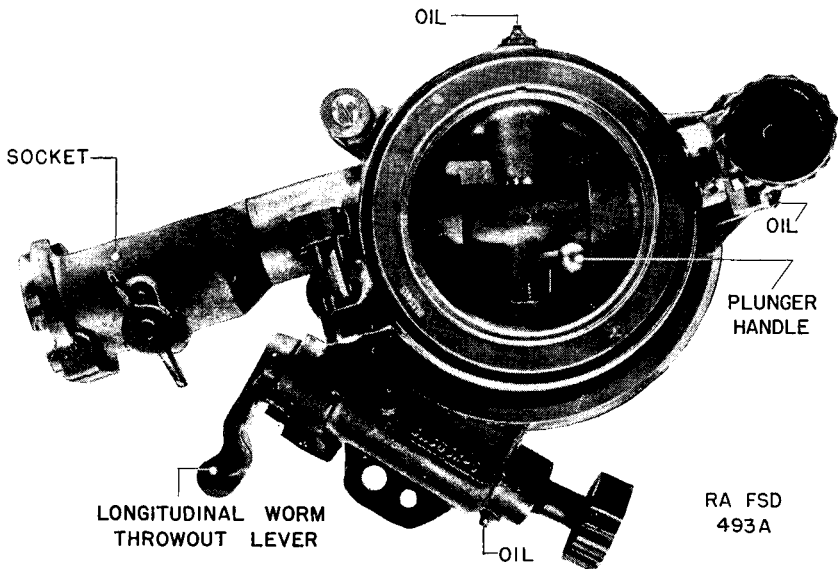

FIGURE 41.—Telescope mount, M15, traveling position.
plane parallel to the bore of the gun, while the longitudinal level when centered indicates the telescope to be vertical and hence deflections (azimuths) indicated on the scale are then measured in a truly horizontal plane. For traveling, a locking device is provided which holds the mount in the position shown in figure 41.
*c. Operation.*—(1) *Preparation.*—To place the mount and telescope in operation (fig. 41) remove the cover, grasp the socket in one hand and with the other push the plunger handle down, then to the left and release. Swing the socket to an approximately vertical position and with the free hand push the longitudinal worm throw-out lever clockwise until it snaps in place. Release the socket. Remove telescope from case. Turn the retaining knob to its extreme counterclockwise position and place telescope gently in the socket. Exert slight
*e. Care and preservation.*—(1) See paragraph 58 for general instructions pertaining to care and preservation of instruments.
(2) Avoid striking or bumping any part of the instrument, and particularly denting or burring of locating surfaces of mount and telescope.
(3) When not in use keep the telescope in its case and the level vials covered.
(4) Stops are provided on the longitudinal and cross leveling motions of mount and on the elevating motion of telescope. Do not attempt to force rotation of any of the knobs beyond these limits.
(5) Be sure longitudinal worm is disengaged and plunger free to snap into the hole provided for it before attempting to place mount in traveling position and that the throw-out lever is returned to its extreme clockwise position when mount is placed in operating position. For travel, plunger handle should be kept in its upper position and worm throw-out lever should be kept in its lower position.
(6) Oil the principal bearing surfaces occasionally using neutral oil when temperatures are above 32° F., and using oil, lubricating, for aircraft instruments and machine guns, when temperatures are below 32° F. Three oil fittings are provided for this purpose (fig. 41). Also keep telescope retaining shaft and other parts well oiled. Keep locating surfaces of telescope, telescope socket, and retaining shaft lightly coated with petrolatum. Wipe off lubricant seeping from the moving parts to prevent accumulation of dust and grit. Exercise particular care to keep optical parts free from oil and grease.